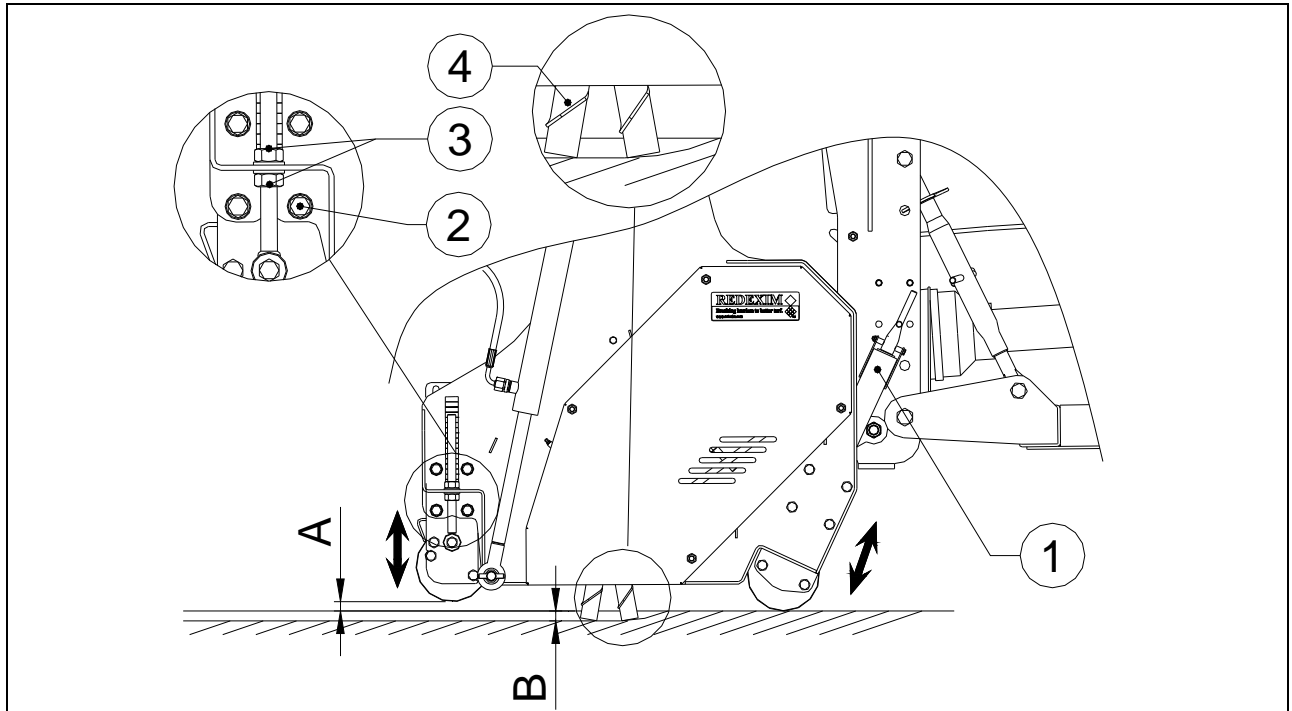

Fig. 9
- ⚠ **If wind vanes (See fig. 9 item 4) have been fitted, never increase the depth to ensure that the wind vanes remain above the surface. !! If this is not observed, the surface and the machine can be seriously damaged!!**
**If wind vanes (See fig. 9 item 4) have been fitted, never increase the depth to ensure that the wind vanes remain above the surface.**
5. (See Fig.9) Loosen the bolts 2 on both sides of the machine and adjust the rear roller using nuts 3 until the distance above the ground A is 10mm (0.4") and align on both sides.
6. (See Fig.9) Secure the nuts 3 and bolts 2 properly.